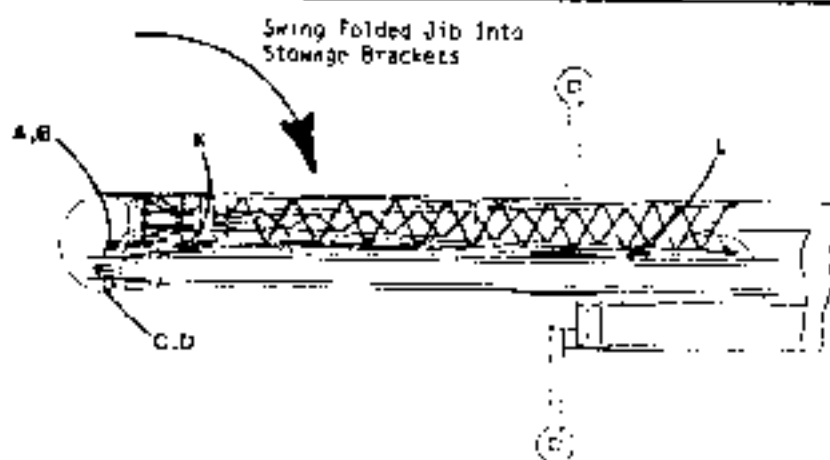

Fig. 4-52
Step 14: Swing the folded jib around, by hand, to stow on the right side of the boom base section. Install pins at "K" and "L" to secure the folded jib in the stowage brackets. Refer to Fig. 4-52.